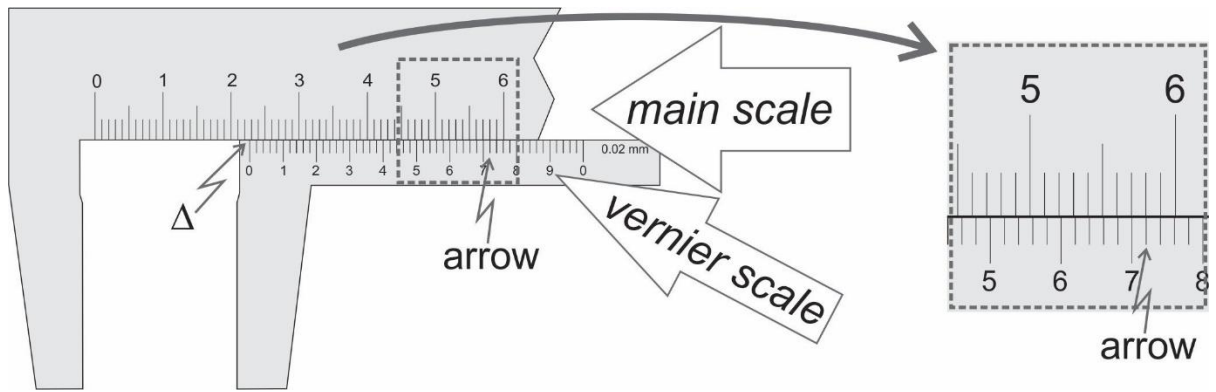

Figure 5 Reading the vernier scale of the caliper
4. The vernier scale enables one to accurately determine the value of, Δ , the amount by which the 0 on the vernier scale went beyond the millimeter mark on the top, main or cm scale – the Δ bit in **figure 5**. The accurate value of Δ is read off on the vernier scale and added on the reading made on the main scale. In order to determine the value of Δ we compare the position of the lines on the vernier scale to the position of the lines on the main scale - **figure 5**. Start at the left-hand end of the vernier lines and move your eye along them to the right – **figure 5**. Notice that at some point the two sets of lines come into alignment with one another - at the arrow's position. The vernier scale is read off at this alignment point, the position of the arrow. What is the vernier scale reading at this alignment point? Add this fraction of a millimeter value to your reading on the main scale - where the 0 of the vernier scale is located on the main scale - and note the final value down in your book. Note that a reading made with such a vernier caliper must always have a figure for the 1/100th of a millimeter digit! Even if the reading falls exactly on a millimeter mark, in which case you will have a 0 in the tenth and a 0 in the hundredth of a millimeter position in the reading.